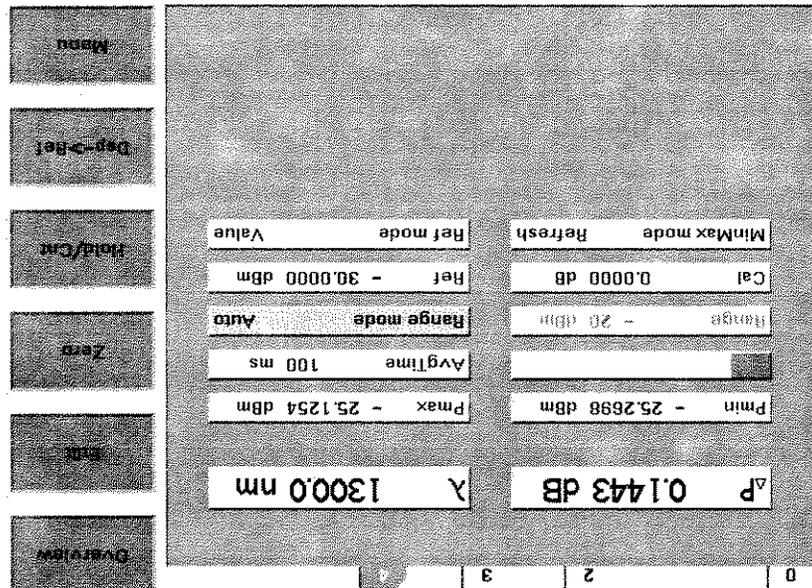

Figure 51 MinMax Mode Screen
3. Move to <Refresh>, by using the cursor key, and press *Enter*. The screen in Figure 51 appears.